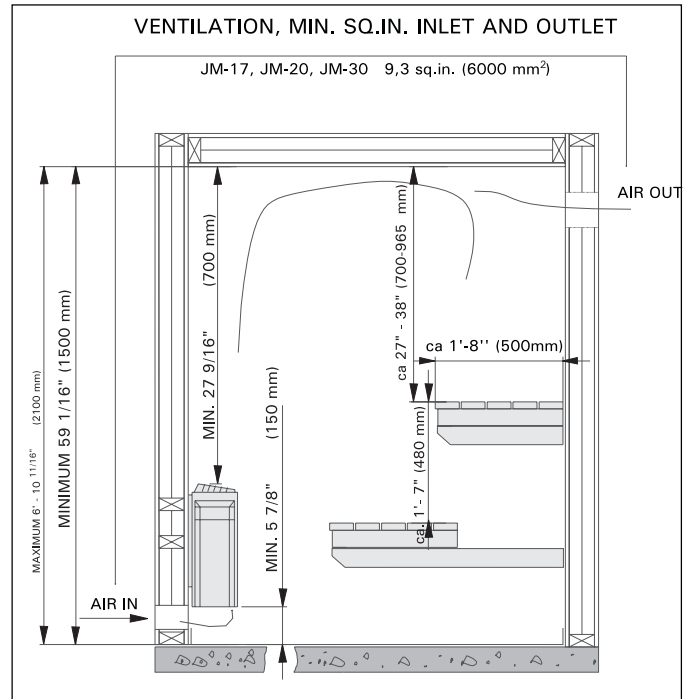

Figure 4. Sauna room
Outlet ventilation openings shall be located at the top of the wall, as close to the ceiling as possible, and shall comply with the minimum size requirements for inlet ventilations openings. See fig. 4.
Table 1. Installation details of a JM heater. See fig. 4 and item 2.3. "Heater output"
NOTE! There should be a support, e.g. a board, behind the panel, so that the fastening screws can be screwed into a thicker wooden material than the panel. If there are no boards behind the panel, the boards can also be fastened on the panel. See figure 4.